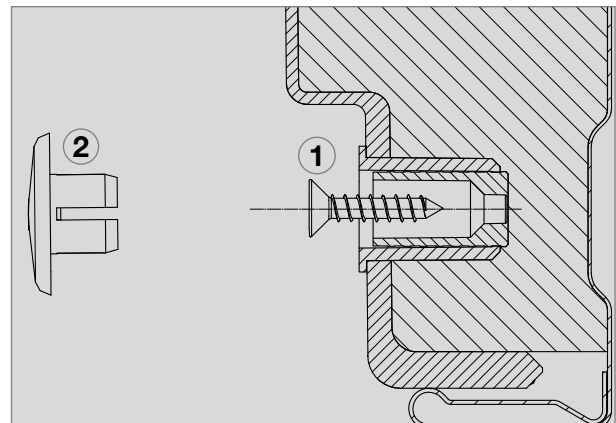

Fig. 23
- The gas connection to the appliance is effected by means of (Ermeto-) olive type fitting L8, DIN 2353-ST, complying with EN 1949 (s. figure 23,1).